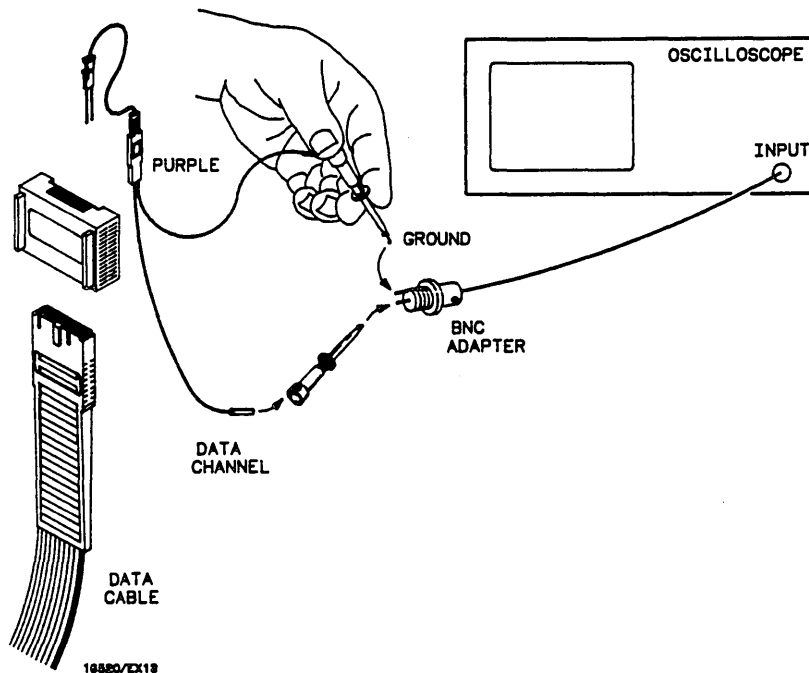

Figure 3-1. Data Period Accuracy Test Equipment Hookup
- a. Connect data output channel 0 and the corresponding ground from a selected output data cable, to the oscilloscope as shown in figure 3-1. The output cables can be internally connected for either TTL or ECL.